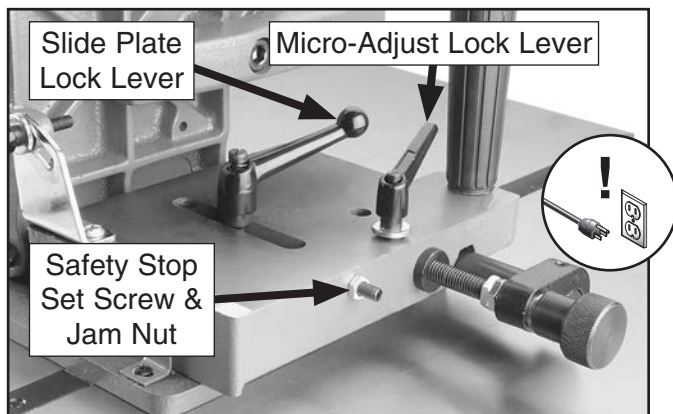
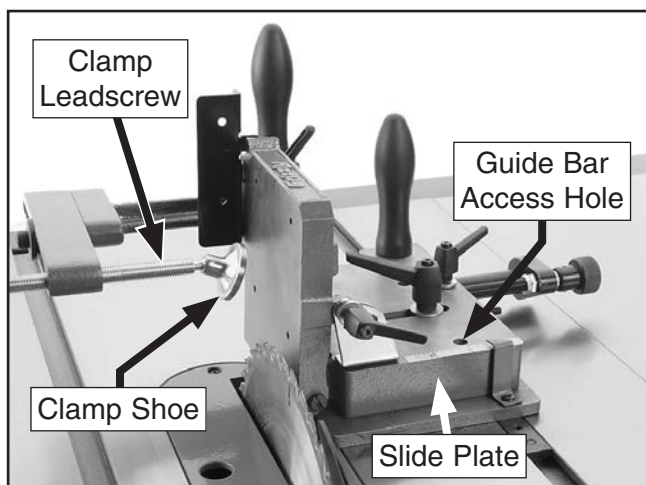

Figure 18. Side support safety stop.
Figure 19. Checking for side support parallelism with the saw blade.
In this procedure you will adjust the side support to be parallel with the saw blade and 1/2" away from it. Then you will set the safety stop set screw (see **Figure 18**) so that the side support cannot come into contact with the blade when adjusting for different cuts.
4. Loosen jam nut on safety stop set screw, then back the set screw out so that it will not interfere with adjustments (see **Figure 18**).
6. Loosen slide plate and micro-adjust lock levers, shown in **Figure 18**, then use clamp handwheel to move clamp leadscrew and shoe out of the way for the next step (see **Figure 19**).
8. Use micro-adjust knob to align slide plate guide bar access hole (see **Figure 19**) over guide bar cap screw, then loosen cap screw.